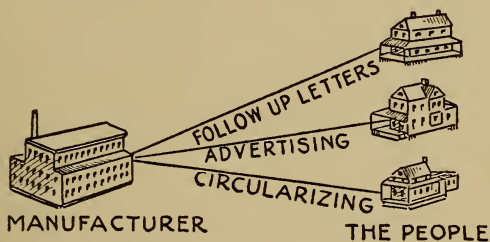

FIG. 101. SELLING DIRECT FROM THE FACTORY TO THE CONSUMER
**Selling Direct from Factory to Consumer.**—A large number of manufacturing concerns have built up profitable businesses by advertising in various publications and dealing directly with the consumer. See Fig. 101.